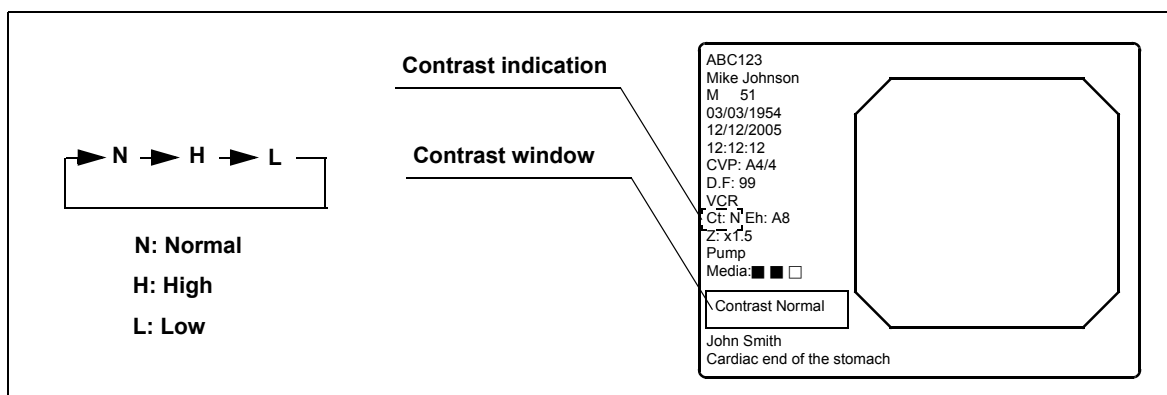

Figure 5.35
1. Press the “Shift” and “F6” keys together. Every time the two keys are pressed, the contrast mode changes. The selected mode is displayed on the monitor (see Figure 5.35).